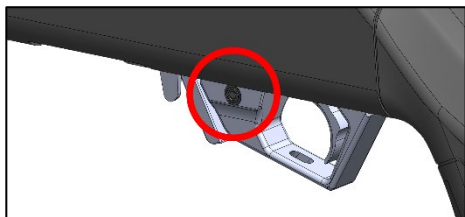

Figure 21 – SAFETY ON/FULL SAFE
- Place the safety button into the “FULL SAFE” position – Figure 21.